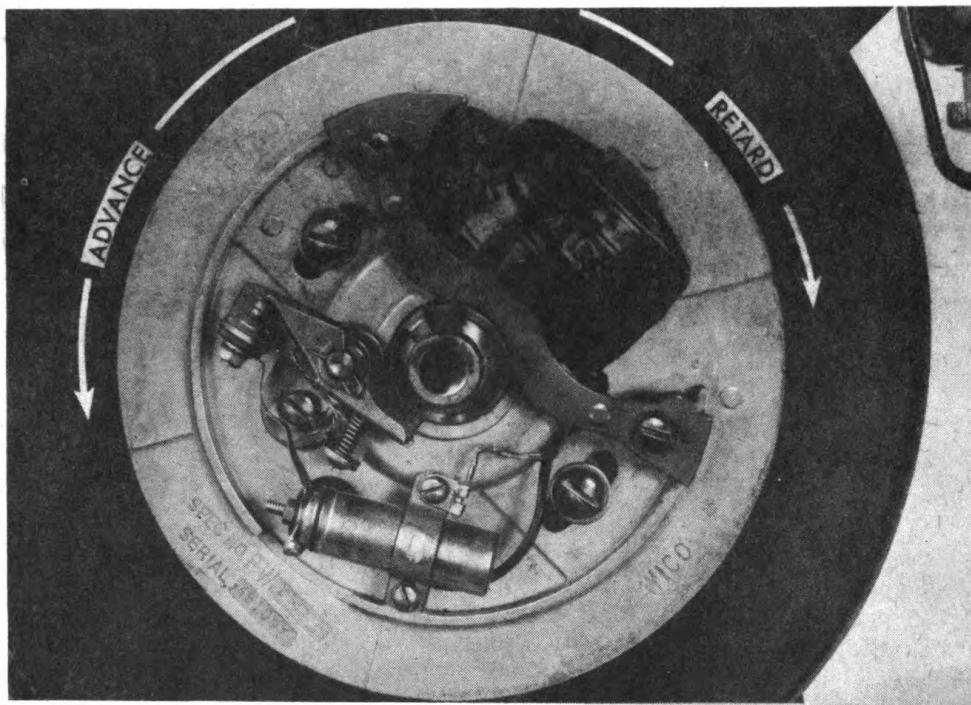
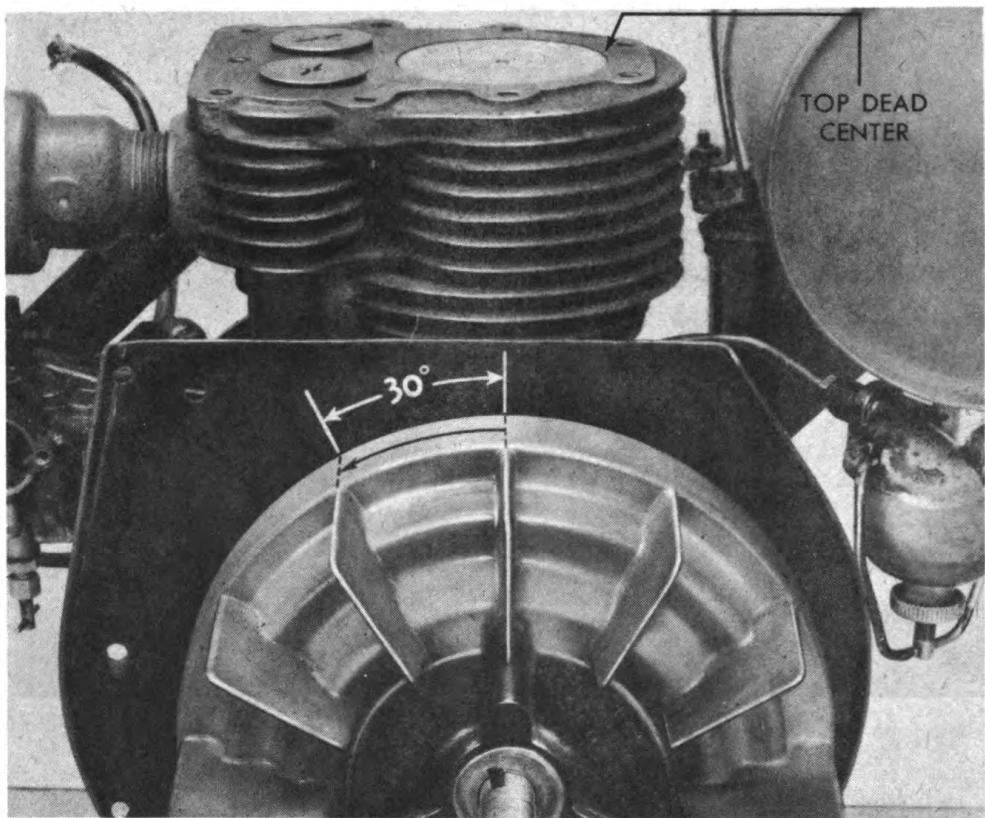
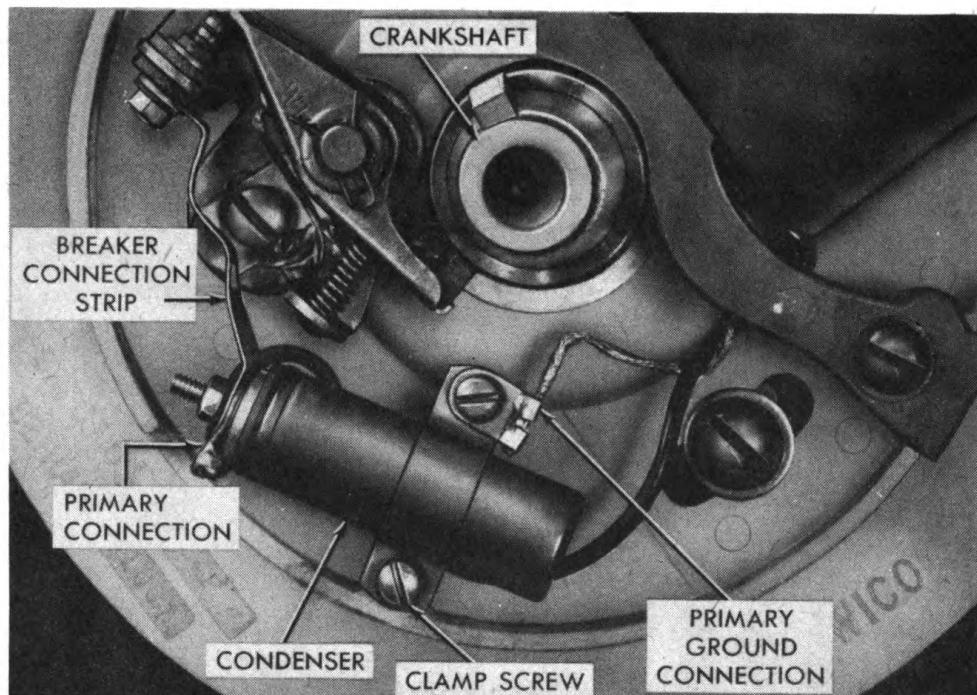

Figure 26—Timing Adjustment
Figure 27—Flywheel Measurements for Setting Timing
Figure 28—Condenser and Attaching Parts
d. Timing Adjustment. (See figure 26.)
- (1) Remove flywheel retaining nut, lock washer, and starter pulley; then remove flywheel.
- (2) Loosen two $\frac{1}{4}$ inch screws which hold the stator plate to the engine.
- (3) To retard timing, turn stator plate clockwise.
- (4) To advance timing, turn stator plate counterclockwise.
- (5) Tighten two $\frac{1}{4}$ inch screws securely, to lock plate in position.
- (6) Install starter pulley, lock washer, and flywheel retaining nut securely.
- (5) Mark location of any flywheel air fin on shroud (see figure 27); then back the flywheel up, one fin (30 degrees) counterclockwise.
- (6) Remove flywheel.
- (7) Loosen two screws, which hold stator plate to engine, and turn stator plate until the points just start to open. (See figure 26.)
- (8) Tighten two stator plate holding screws securely.
f. **Condenser Removal.** (See figure 28.)
- (1) Remove flywheel retaining nut, lock washer, starter pulley, and flywheel.
- (2) Disconnect breaker connection strip and primary connections from live end of condenser.
- (3) Remove two clamp screws; then lift off condenser and clamp assembly.
g. Condenser Installation. (See figure 28.)
- (1) Position condenser assembly on stator plate and install outer clamp screw.
- (2) Insert remaining clamp screw through ground connection and inner side of clamp and secure to stator plate.
- (3) Install primary connection and breaker connection strip on live end of condenser.
- (4) Install flywheel, starter pulley, lock washer, and flywheel retaining nut on crankshaft.